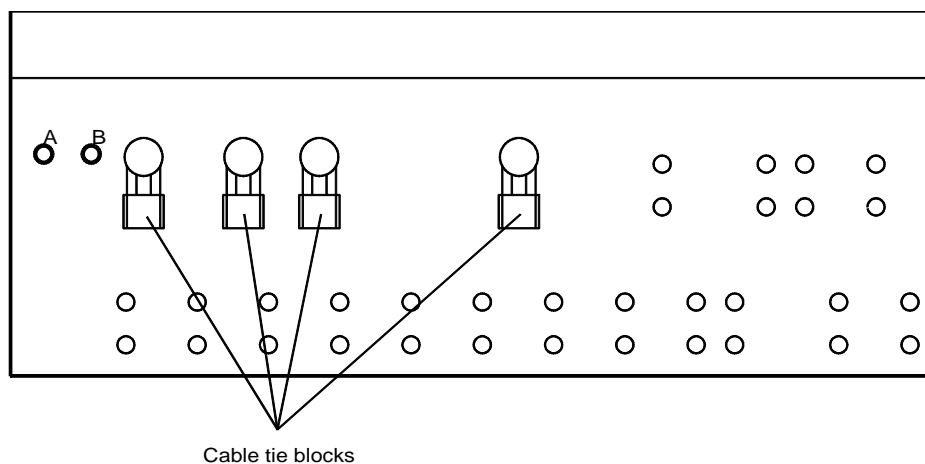

Fig. 20-3 Cable Tie Blocks on the Ground Strip
2. Fasten the cable to the cable tie blocks on the ground strip (see Figure 20-3) using a tie wrap.